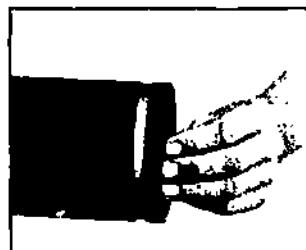

Figure 13-9. Checking Pipe Ends
h) Assembly of style HP-70 Rigid coupling and style HP-70ES coupling is shown in Figures 13-9 to 13-14.